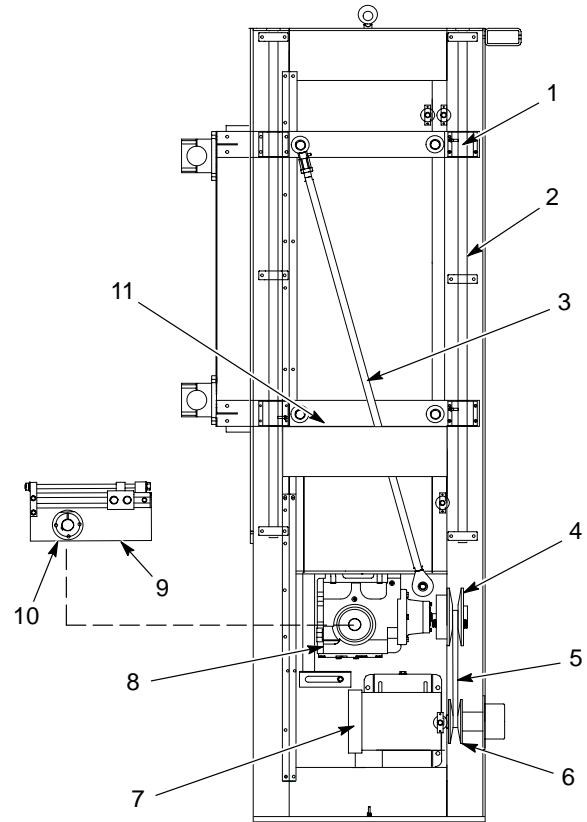

Figure 15 Gear Reducer and Connecting Link Replacement
See Figure 15.
2. See Figure 15. Place a support 2.5 cm (1 in.) below the carriage and lower the carriage onto the support. The 2.5-cm (1-in.) space facilitates assembly of the carriage drive components.
**NOTE:** The carriage can be supported by securing two-piece 2.5-cm (1-in.) bore clamp collars on the carriage guide rods (2) below the bearing blocks on each guide rod assembly.
3. Unbolt the connecting link (3) from the gun carriage plate and the crank arm assembly (9). Note the placement of the spacers used to install the connecting link.